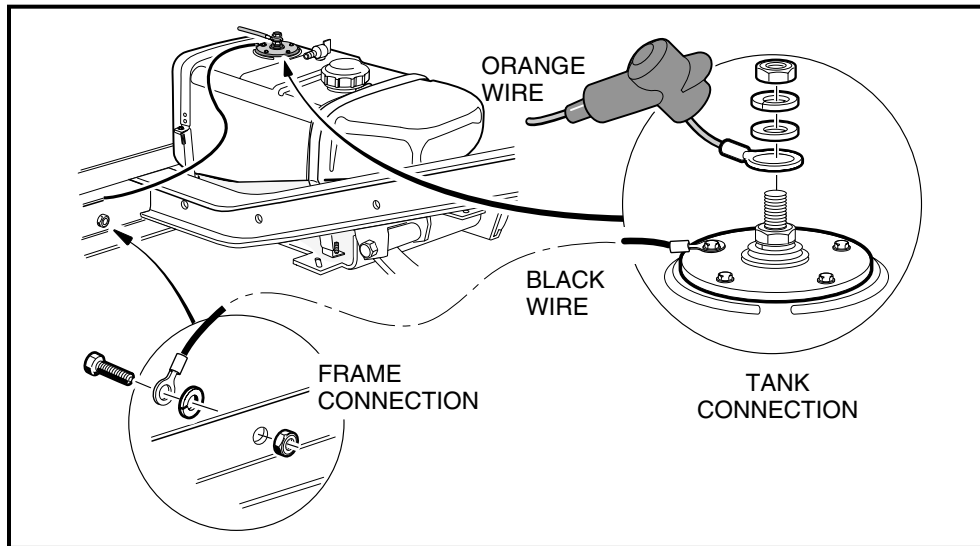

Figure 14-20 Fuel Level Sending Unit
11. Disconnect the black wire and orange wire from the fuel level sending unit on the tank (**Figure 14-20, Page 14-29**). Do NOT remove the lower nut on the center stud of the sending unit. **See following WARNING.**
5. Connect fuel line (1) to the fuel tank shut-off valve (15). Use a new clamp.
6. Connect the black wire from the fuel gauge to one of the fuel level sending unit screws. Connect the orange wire to the center stud (**Figure 14-20, Page 14-29**) and install the flat washer, lock washer and nut. Tighten to 18 in-lb (2.0 N·m).
7. Slide the rubber boot over the stud (**Figure 14-20, Page 14-29**).